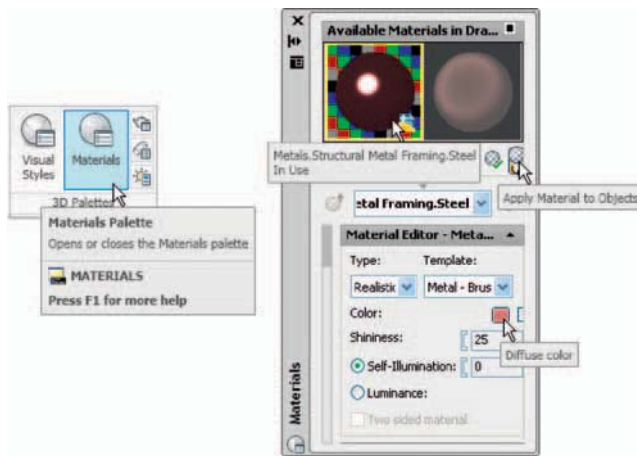

Fig. 15.34 The **Materials** palette showing the applied material
2. Click the **Materials** button in the **View/3D Palettes** panel. The **Materials** palette appears showing an icon of the applied material (Fig. 15.34). In the palettes click the **Diffuse color** button and from the **Select Color** dialog which appears select a suitable colour for the model.
3. Click **Apply Material to Objects** icon (Fig. 15.34).